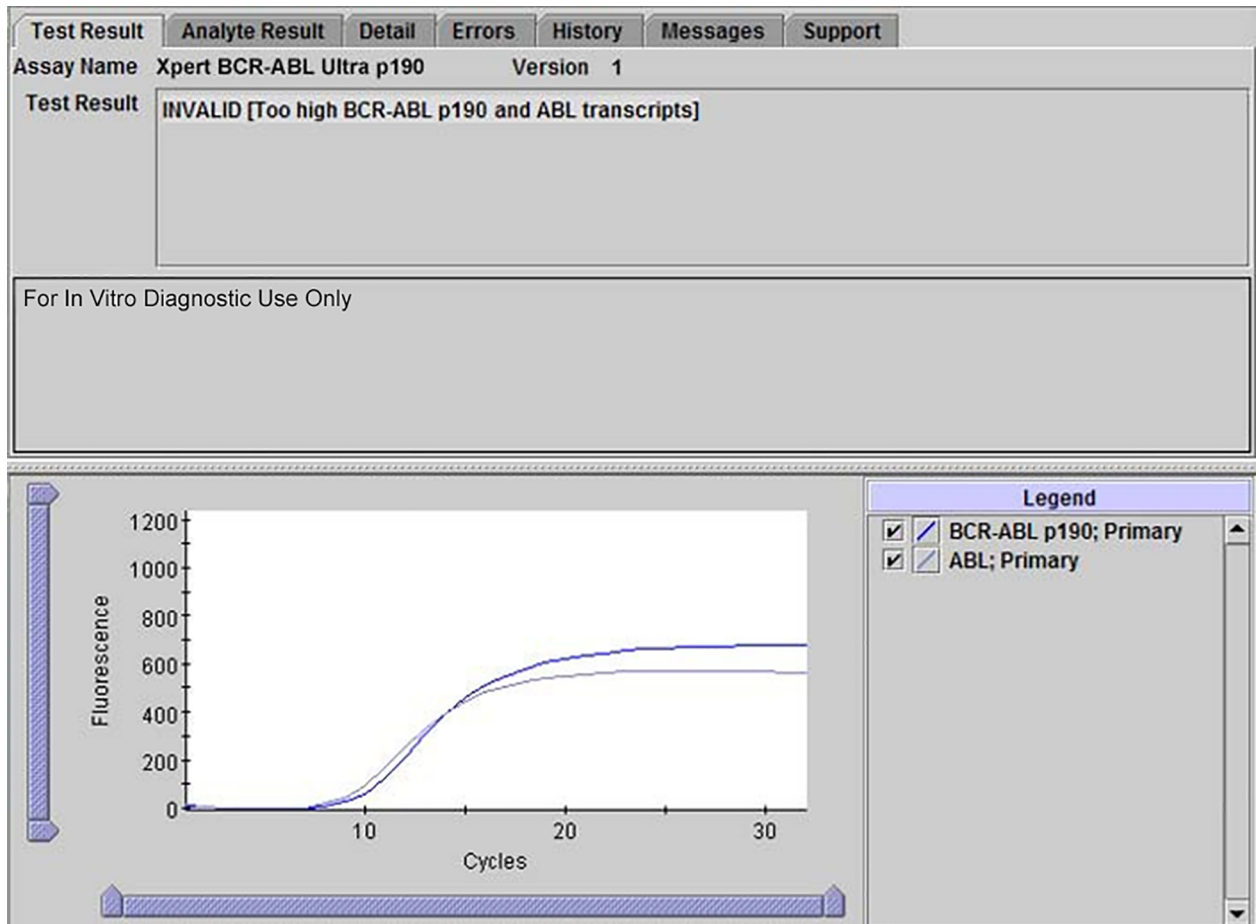

Figure 8. GeneXpert Dx View Results Window: INVALID [Too high BCR-ABL p190 and ABL transcripts]
**Result:** **INVALID [Too high BCR-ABL p190 and ABL transcripts]**. See Figure 8.